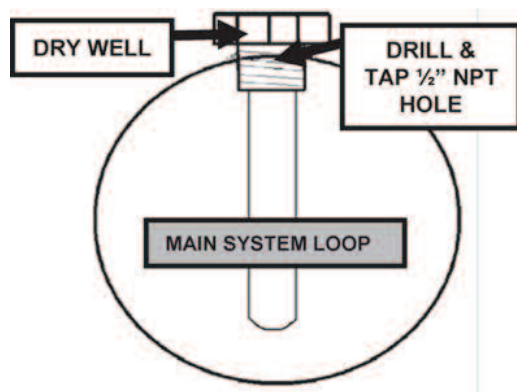

Fig. 21: Drill Hole in Pipe for Dry Well
3. Drill a 23/32" diameter hole (1/2" NPT) into the pipe as shown in Fig. 21.